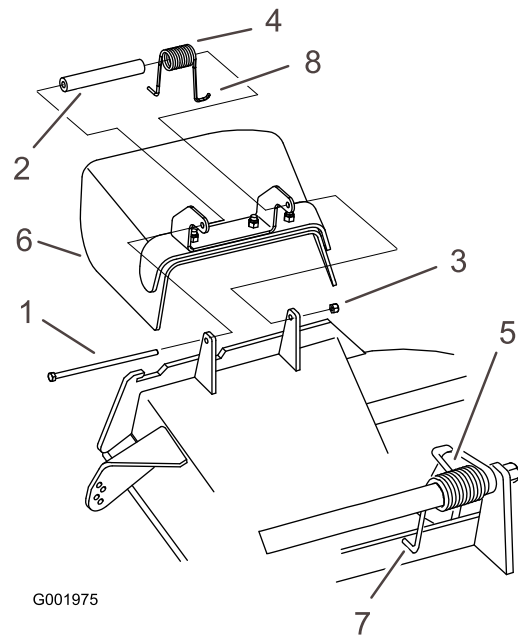

Figure 60
1. Remove the locknut, bolt, spring, and spacer holding the deflector to the pivot brackets (Figure 60).
Note: Make sure one **J** end of the spring is installed behind the deck edge before installing the bolt as shown in Figure 60.
3. Install the bolt and nut. Place 1 J-hook end of the spring around the grass deflector (Figure 60).